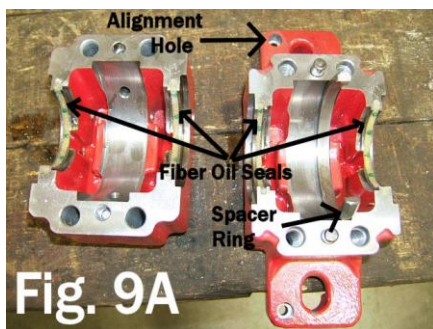

Fig. 9A
- The housings are next. In Drive End Housing, place spacer ring in groove opposite of small alignment hole (See Fig. 9A). In Short End Housing, no spacer ring is required (See Fig. 9B). Install fiber oil seals as shown in Fig. 9A and Fig. 9B. **Install with marked side facing toward roll shaft.** Trim off any excess fiber material with utility knife.